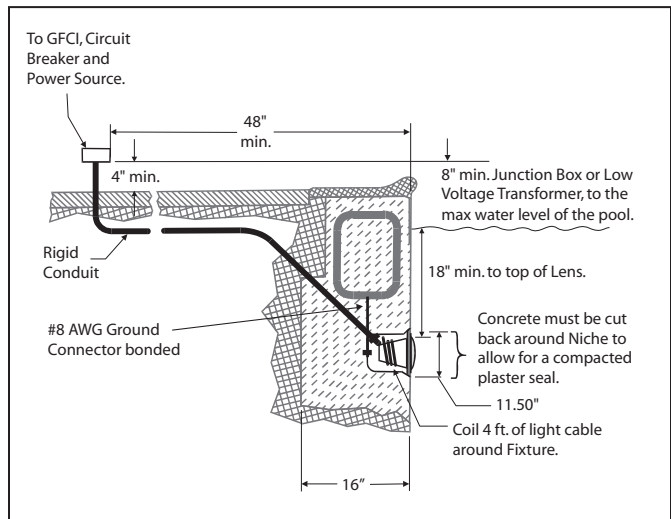
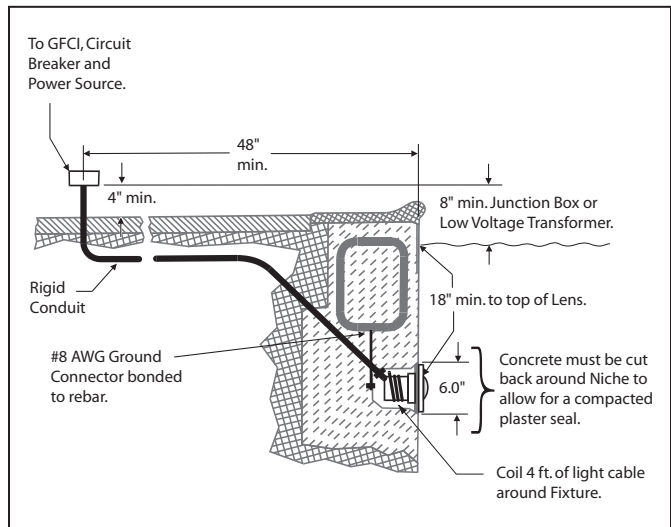

Figure 1. Jandy Pro Series Pool White Light Installation
Figure 2. Jandy Pro Series Spa White Light Installation
NOTE The electrician must complete preparatory steps before light fixture is installed; see Figure 1 (or Figure 2, for spa).
2. The Junction Box (or, for 12 volt models, the low voltage transformer) must be located at least eight (8) inches above water level, at least four (4) inches above ground level or pool deck level, and at least four (4) feet from the edge of the pool or spa; see Figure 1 for pools and Figure 2 for spas.
3. The light fixture and all metal items within five (5) feet of the pool or spa must be properly electrically bonded to a reliable point of grounding.
4. The wet niche must be properly installed so that the top edge of the underwater light's lens is at least 18 inches below the surface of the water in the pool or spa; see Figure 1 or 2.
5. The wet niche must be properly electrically bonded and grounded via the No. 8 AWG ground connector located at the rear of the niche; see Figure 1 or 2.
1. Feed cord through conduit to Junction Box, leaving at least four (4) feet of cord at the light fixture to coil around the light; see Figure 1 (or Figure 2, for spa). This four (4) feet of cord around the light allows the light to be serviced after the pool or spa is filled with water.
2. Cut the cord at the Junction Box, leaving at least six (6) inches of cord to make connections.
3. Strip six (6) inches of the outer cord jacket to expose the three insulated wires. *Be careful not to damage the insulation on the three (3) inner wires.*
4. Install strain relief over cord jacket and connect all three (3) wires to the corresponding circuit wires in the Junction Box. Install the Junction Box cover.
2. The Junction Box (or, for 12 volt models, the low voltage transformer) must be located at least eight (8) inches above water level, at least four (4) inches above ground level or pool deck level, and at least 48 inches from the edge of the pool or spa; see Figure 1 (or Figure 2, for spa).
4. The wet niche must be properly installed so that the top edge of the underwater light's lens is at least 18 inches below the surface of the water in the pool or spa; see Figure 1 (or Figure 2, for spa).
5. The wet niche must be properly electrically bonded and grounded via the No. 8 AWG ground connector located at the rear of the niche; see Figure 1 (or Figure 2, for spa).
5. Leave at least four (4) feet of cord to coil around the light fixture; see Figure 1 (or Figure 2, for spa). This allows the light to be serviced after the pool or spa is filled with water.
6. Cut the cord at the Junction Box, leaving at least six (6) inches of cord to make connections.
7. Strip six (6) inches of the outer cord jacket from the cord to expose the three insulated wires. Be careful not to damage the insulation on the three (3) inner wires.
8. Install the strain relief over the cord jacket and connect all (3) three wires to the corresponding circuit wires in the Junction Box. Install the Junction Box cover.